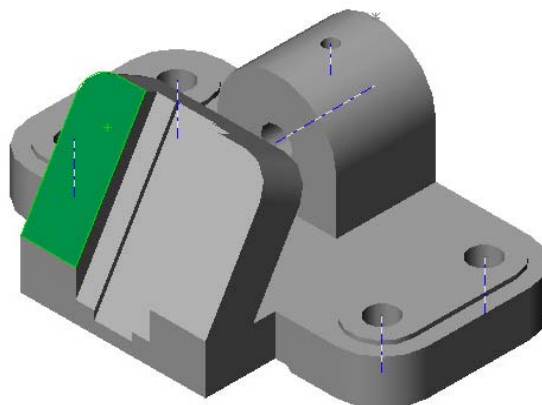

Figure 34 Slot hole sketch plane
45. Select the front face of the slot body as shown in Figure 34.